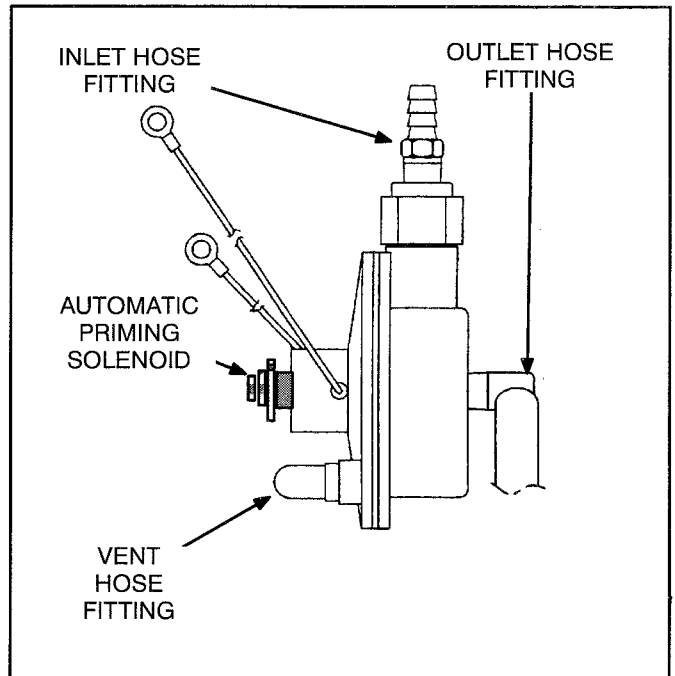

FIGURE 8-12. TOP VIEW OF DEMAND REGULATOR WITH AUTOMATIC PRIMING SOLENOID
See Figure 8-12. The demand regulator assembly supplies fuel to the carburetor. It is usually not the cause of fuel system problems. All other possible causes should be checked out before adjusting or replacing the demand regulator assembly.
1. Connect the regulator inlet (Figure 8-12 on Page 8-14) to a source of air pressure regulated to 11 inches WC (280 mm WC).